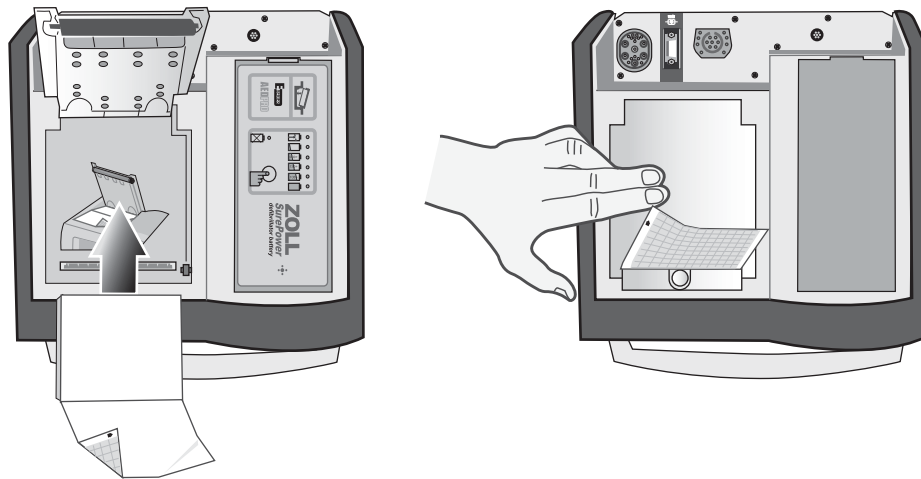

**Figure 12-5. Opening the Printer Door**
1. Press the release button, and allow the printer door to open (see Figure 12-5); then remove any paper.